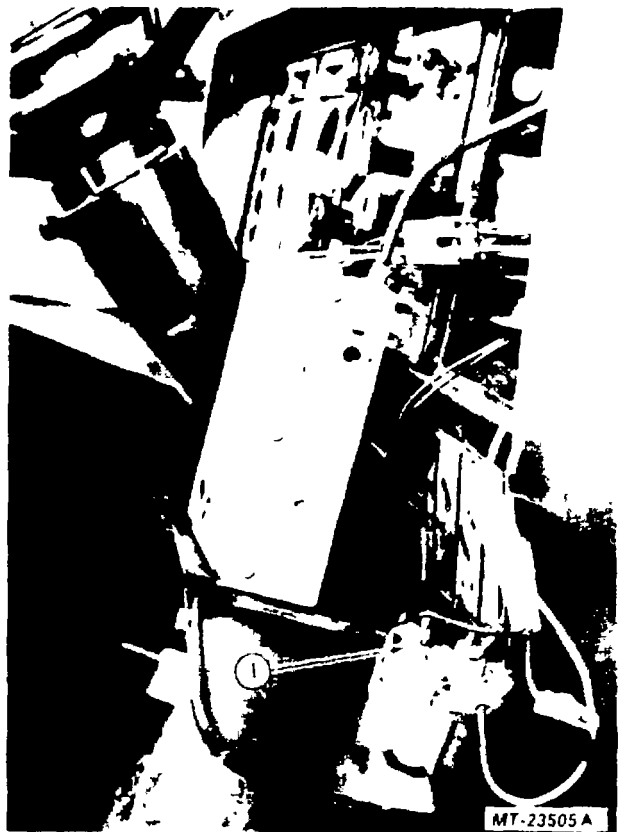

Fig. 21 Auxiliary Gauge Illumination Light (Typical)
2. Tip panel outward to gain access to instrument (Figure 21).